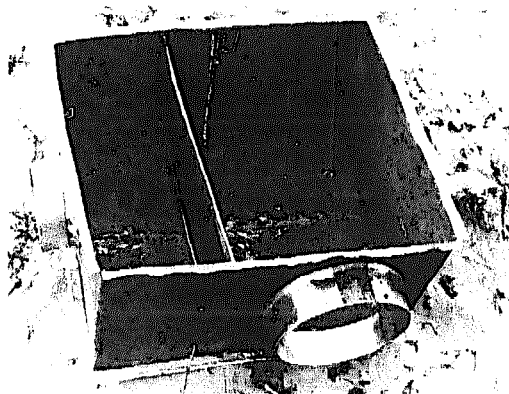

Figure 13.19—Stove with bottom, baffle and both collars installed.
13.5, Drawings A and C, leaving 1¼ inches of clearance between the top and bottom of the stove. Rivet four times to the sides. Figure 13.19 shows how the stove should look at this stage.